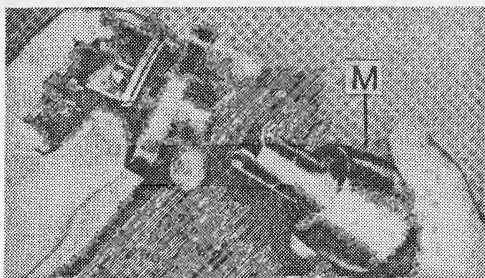

Fig. 10-9.
9. To facilitate reassembly (Fig. 10-9), remove the outside knob (M) from the lock frame by rotating the knob $\frac{3}{4}$ of a turn while pulling out.